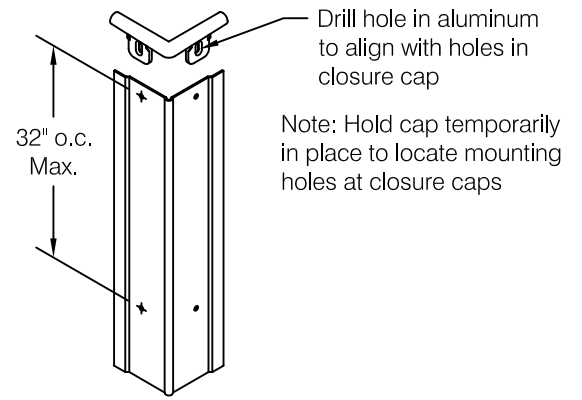

fig 2
Step 2: If installing on masonry pre-drill clearance holes in aluminum retainer for hardware listed below using a #15 (.180") bit for #8 fastener. Locate mounting holes at closure caps and along the retainer not to exceed 32" on center, see **fig 2**. If installing on gypsum wall with stud backing proceed to **step 3**.
Drywall Installation: Locate mounting holes at closure caps and along the retainer not to exceed 32" on center, see **fig 2**. If it is necessary to install fasteners in locations where there is no metal backing or stud use pre-drilled aluminum as a template to mark and drill wall for plastic Alligator[®] insert in accordance with instructions provided with hardware.